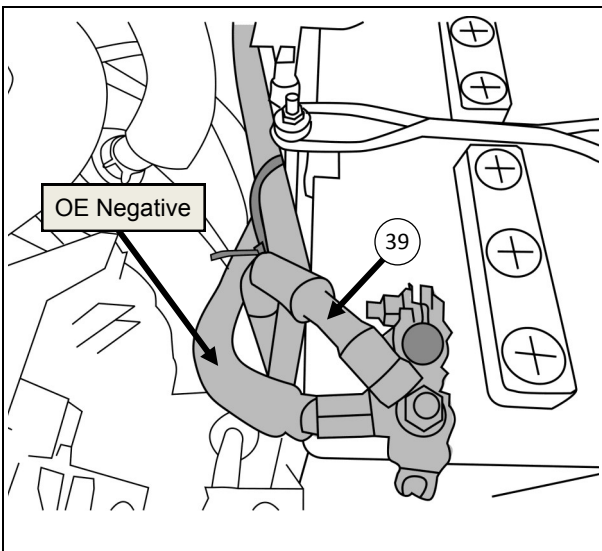

Figure 50: Connect Cable Negative
- Connect Cable Negative (Item 39) to Negative Terminal on battery in orientation shown. Ensure Cable Negative (Item 39) routes inside of the OE Negative Cable as shown in Figure 50.